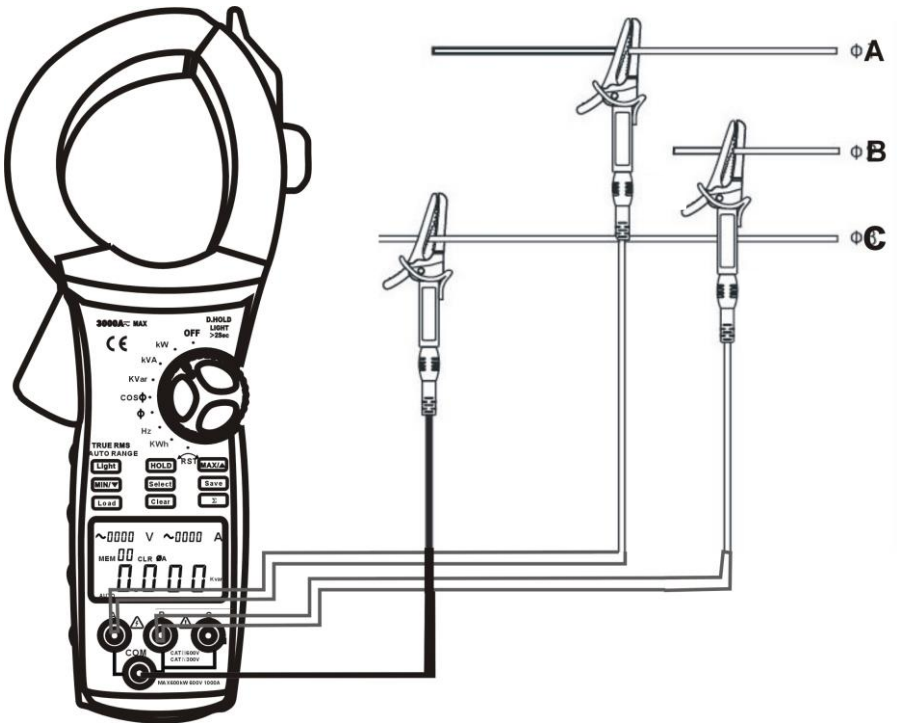

figure 7
- When measuring 3 phase 3 wires, connect the Meter as figure 7.